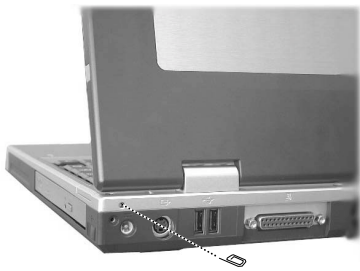

Figure 2-2 Insert a rod easy to remove
1. Open the top cover, and then insert a small rod, such as a straightened paper clip, into the eject hole near the power connector of the notebook. (Figure 2-2)